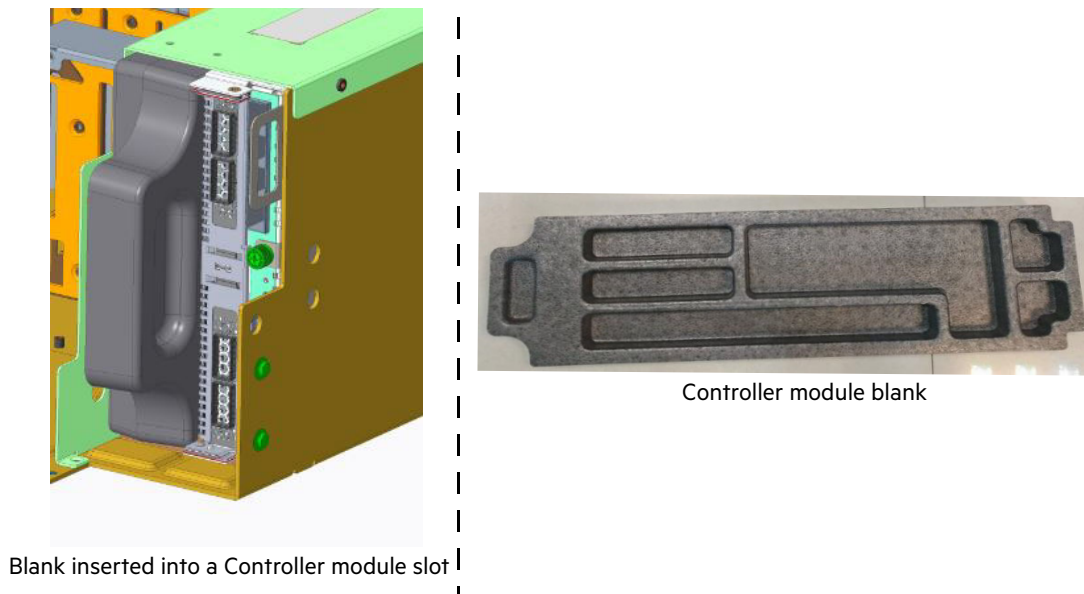

Figure 90 Controller module blank inserted after removing a Controller module
Removing a Controller module from an operational enclosure significantly changes air flow within the enclosure. Openings must be covered for the enclosure to cool properly. If you need to replace a controller module, leave it in place until the replacement is ready to be installed. If you need to remove the controller module in order to replace a component on the controller or to remove a Storage personality module, you must insert a foam Controller module blank in the Controller module slot and leave the blank in place until the controller module can be reinserted. Figure 90 shows the Controller module Foam blank.
- Before removing a faulty module ensure that you have a replacement Controller module ready to insert in the its slot. In the absence of replacement controller module, make sure you have service blank ready to insert (see Figure 90) in the slot.